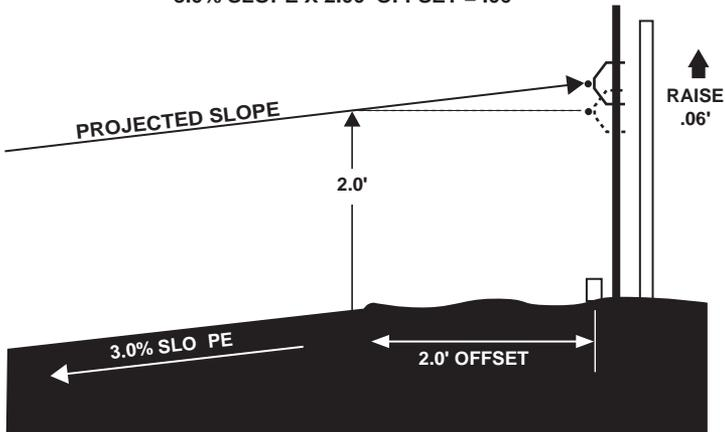

Figure 3-15. Raise Stringline: 3% Cross Slope with 2 Foot Offset
- If the road slopes down from the stringline, the stringline will need to be raised (Figure 3-15).